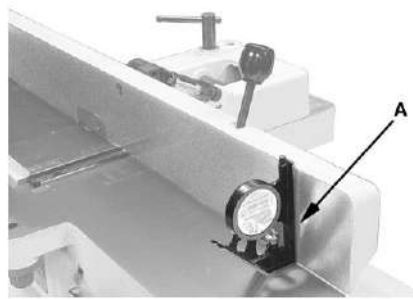

Fig 25
5. Place an angle measuring device on the table and against the fence to confirm a 90° setting (A, Fig. 25).
6. If the fence is not square to the table, release the *lock handle* (J), loosen the hex nut (F), and turn the *stop bolt* (E) until the fence is square to the table.
7. Tighten the lock nut (F) to retain the setting. Tighten the lock handle (J).